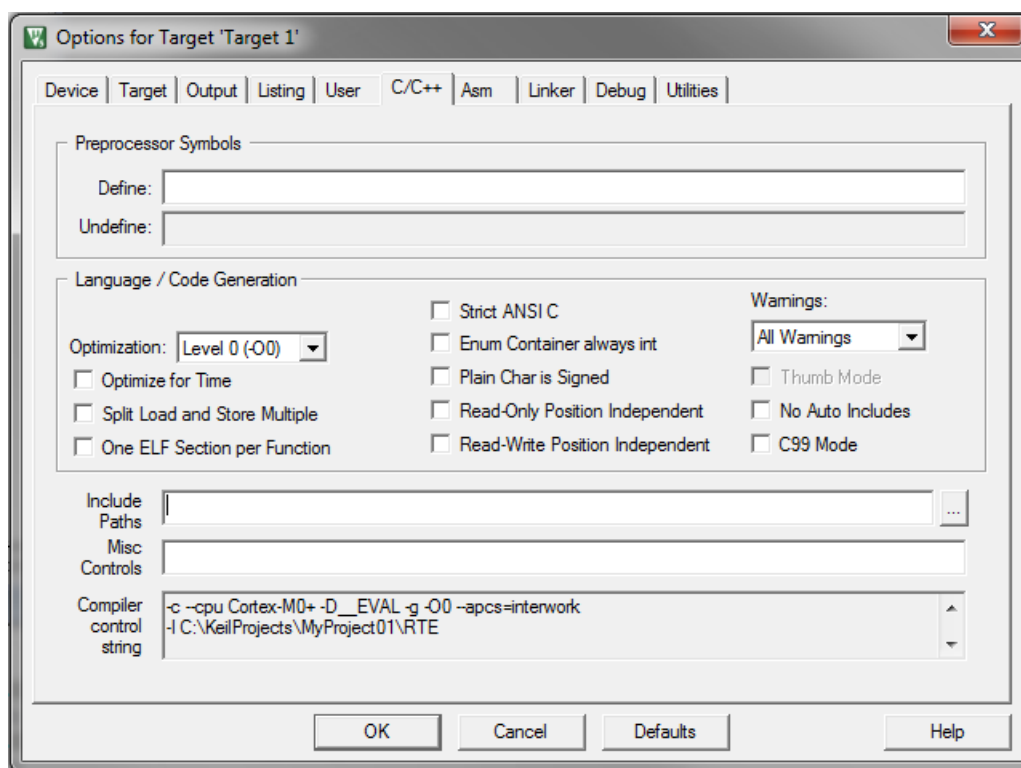

Figure 1-35. Library path addition
2. Select the C/C++ tab. See Figure 1-35.